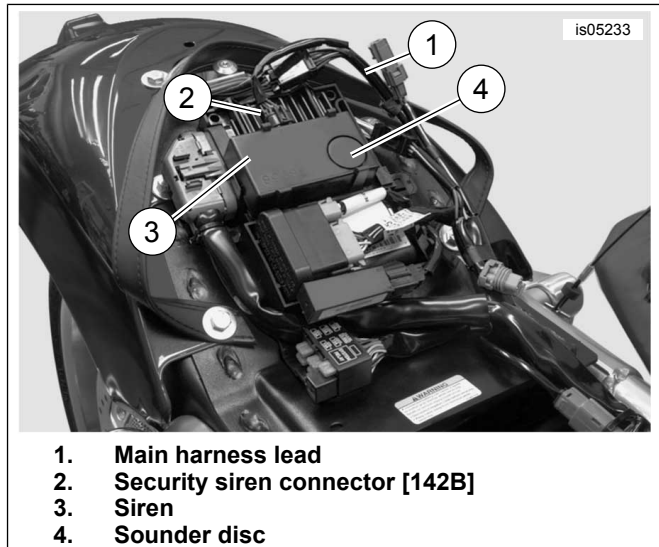

Figure 12. 2007 and Later VRSCA, VRSCD, VRSCF Models
7. See Figure 12. Locate three-wire security siren connector [142B] (2), tied back to harness lead (1) that travels alongside TSSM mounting caddy. Cut tape to free connector and wires.
9. With sounder disc (4) facing out, clip siren onto TSSM mounting caddy as shown.